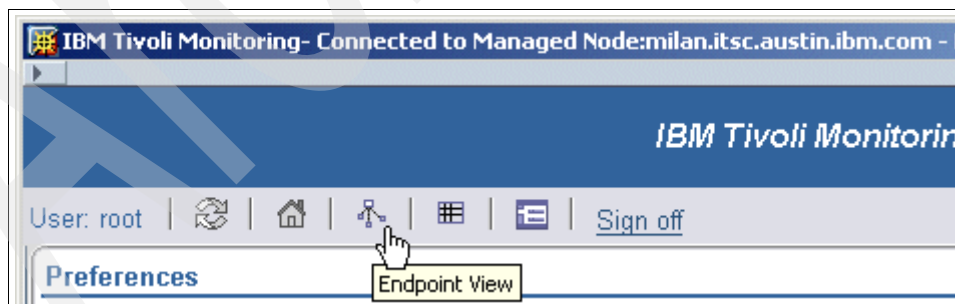

Figure 9-151 Selecting Endpoint view.
7. Two basic views are available from within Web Health Console: endpoint or resource model. Select the Endpoint View icon to view a status of the environment by all selected endpoints as shown in Figure 9-151.